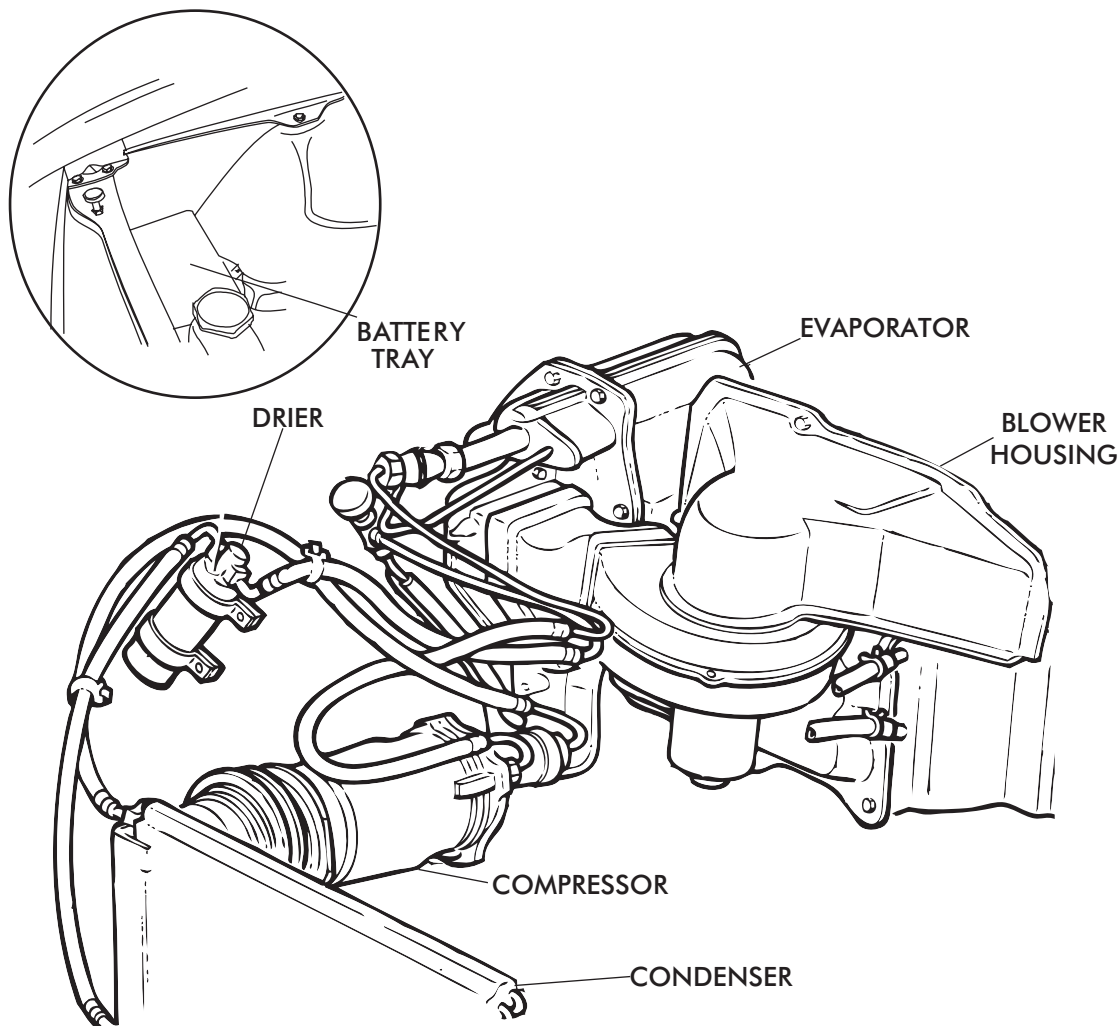

FIGURE 1
- ☐ OEM CONDENSER AND DRIER (DISCARD). SEE FIGURE 1.
- ☐ OEM A/C LINES FROM COMPRESSOR TO EVAPORATOR (DISCARD). SEE FIGURE 1.
- ☐ OEM COMPRESSOR AND BRACKET (DISCARD). SEE FIGURE 1.
- ☐ OEM HEATER HOSES, A/C HOSES, HARDLINES AND DRIER (DISCARD). SEE FIGURE 1.
- ☐ OEM A/C & HEATER WIRING/VACUUM HARNESS MOLDED GROMMET. SEE FIGURE 1.